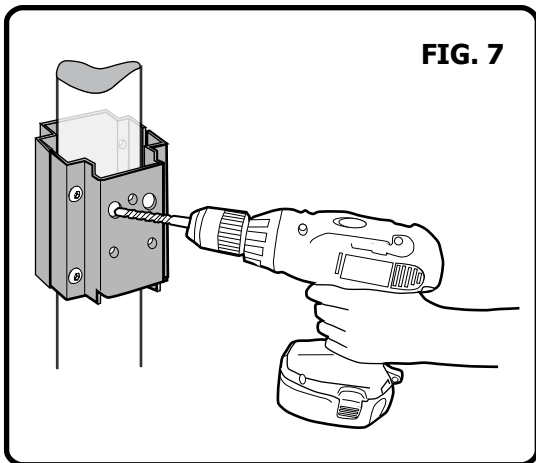

FIG. 7
- Use the bracket (ITEM 12) as a drilling jig to drill a Ø12mm hole through the left hand hole of the bracket (see Fig. 7) into the post. This hole will allow the cable from the sign light to be fed down inside the post.